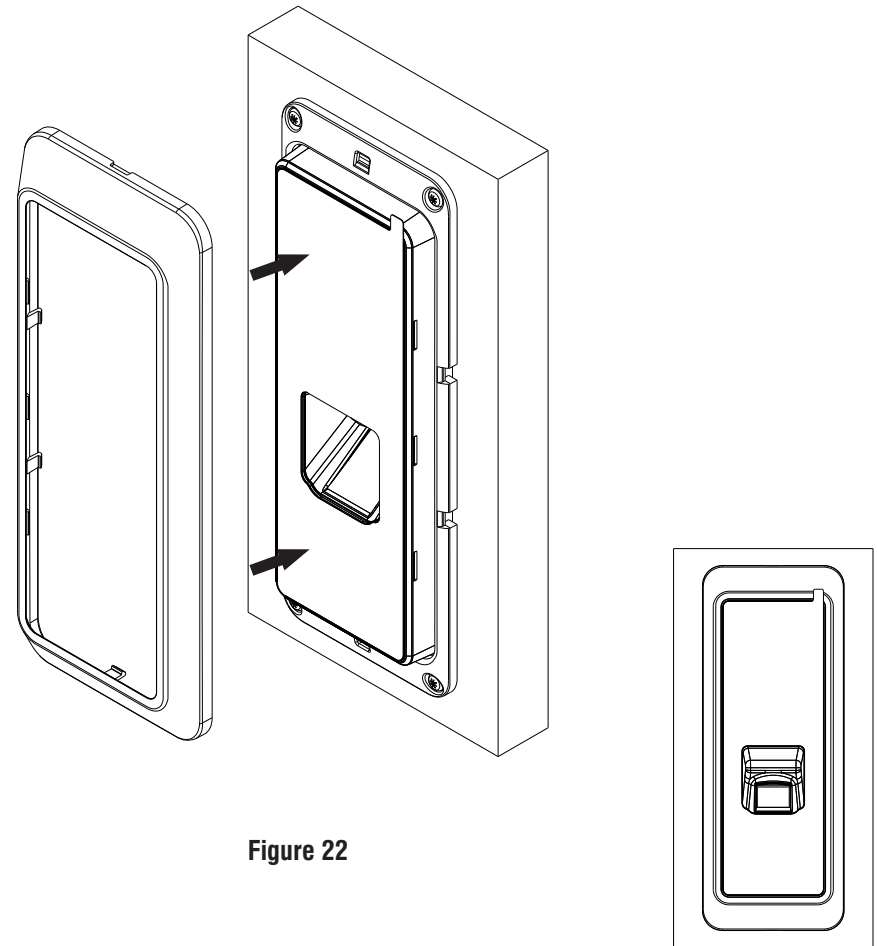

Figure 22
Step 5: Place the Surface Mount Top Facia Plate on the installed Device, see **Figure 22**.